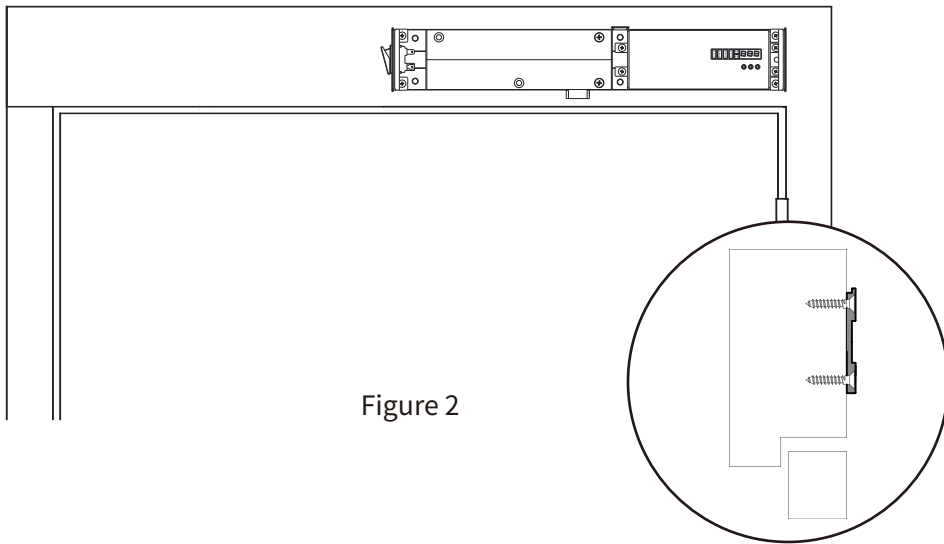

Figure 2
Step 2: put the door opener into the door frame, align the already punched screw holes, and fix them with screws, as shown in Figure 2.